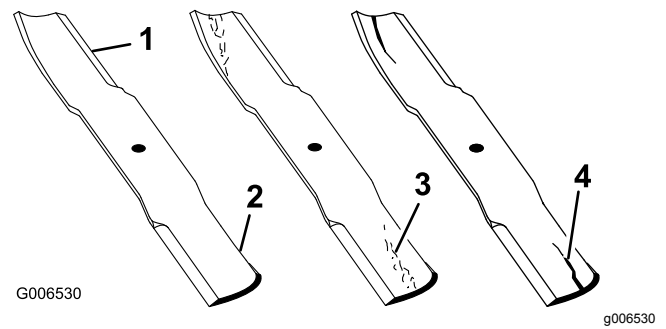

Figure 47
1. Inspect the cutting edges (Figure 47).
4. If you notice any cracks, wear, or a slot forming in this area, immediately install a new blade (Figure 47).